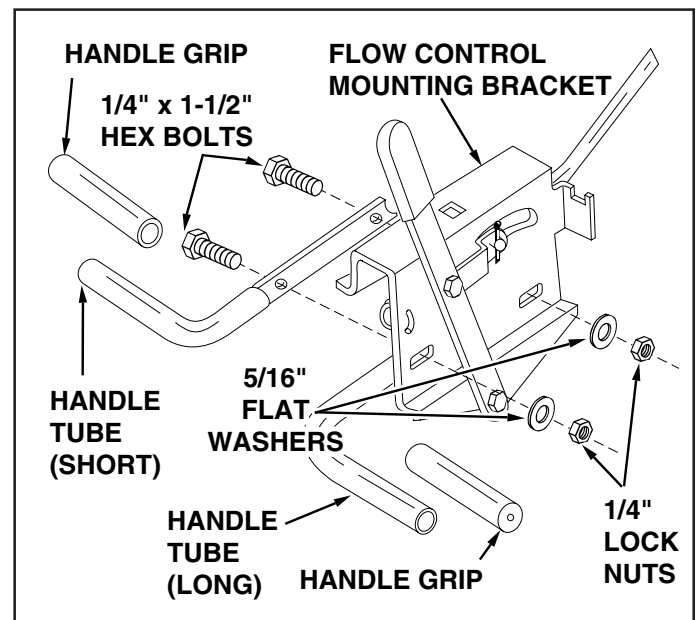

FIGURE 13
21. Assemble flow control mounting bracket and the handle tube (short) to the handle tube (long) using two 1/4" x 1-1/2" hex bolts, two 5/16" flat washers and two 1/4" lock nuts. See figure 13. **DO NOT TIGHTEN AT THIS TIME.**
22. Place handle grip on each handle tube. See figure 13.